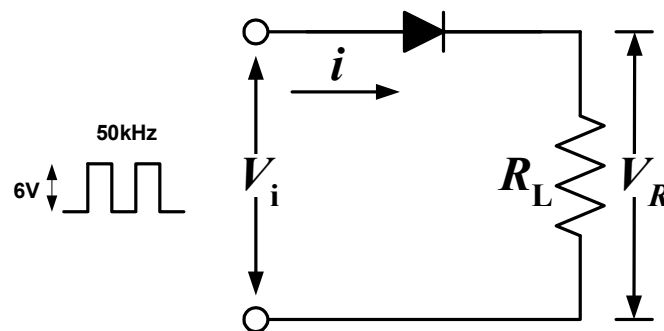

Fig. B4.
7.1 Connect the circuit shown in Fig. B4 using a Si diode. The input is a square wave with a frequency of 50 kHz and an amplitude of 6V peak-to-peak. The load resistance (R_L) is 1 k Ω . Plot V_i and V_R in the same graph. Also show $V_{R-ideal}$ on the same graph if the diode were ideal (this is for comparison purposes). Expand the time axis until only a few complete cycles fill the CRO screen. Now, you can determine t_r by measuring the duration between the point when the diode *should be* off (the falling edge of V_i) and the point when it *is* off. What is the t_r of the Si diode? (The reverse recovery time t_r , consists of the storage delay time t_{sd} and the decay time t_d .)